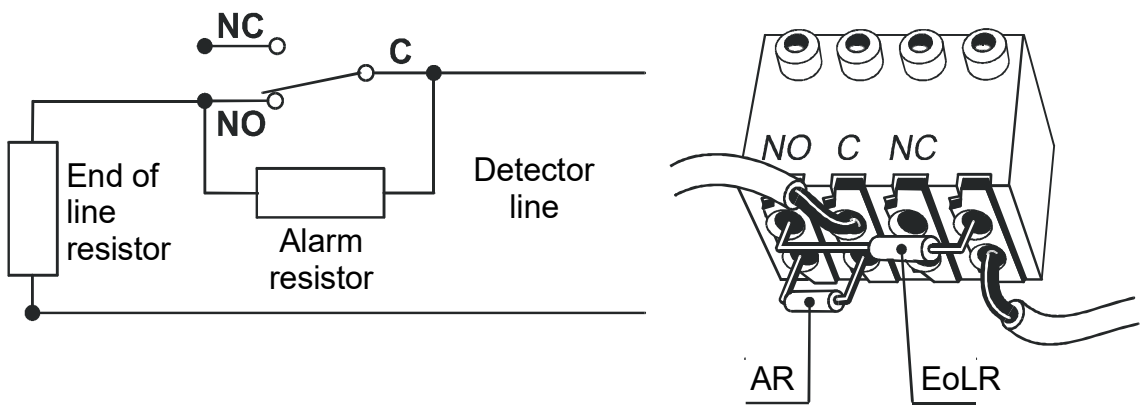

Fig. 4a
An exemplary connection of the last detector into a detecting line of a burglar alarm control system – in a non-voltage (N) operation mode and with power supply on – is shown on Fig. 4a.